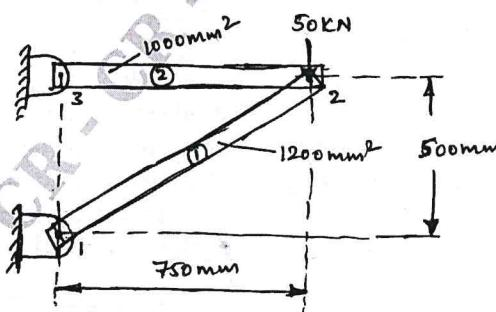

Fig.Q4(b)
- b. Find the nodal displacement, stress and reaction of truss element shown in Fig.Q4(b). Take $E = 200 \text{ GPa}$. (10 Marks)